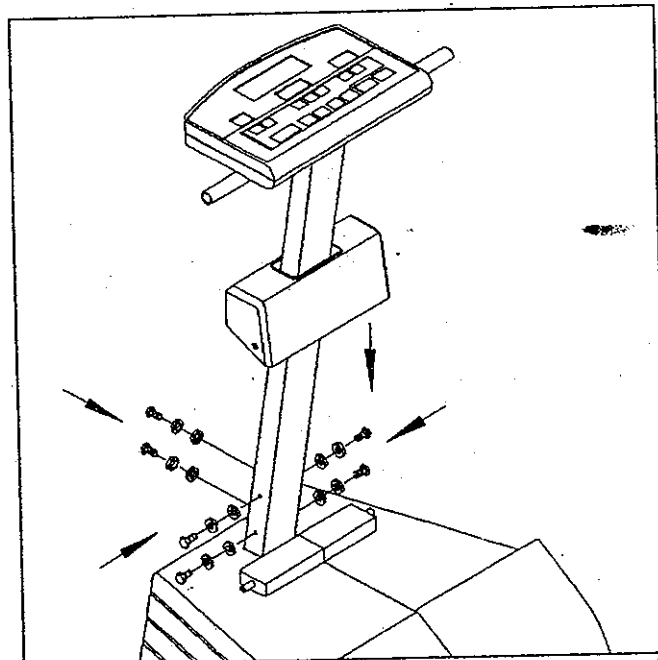

Fig. 6
2. Assemble the front post and tighten all the screws and washers. Then replace the post shroud (see Fig. 6).